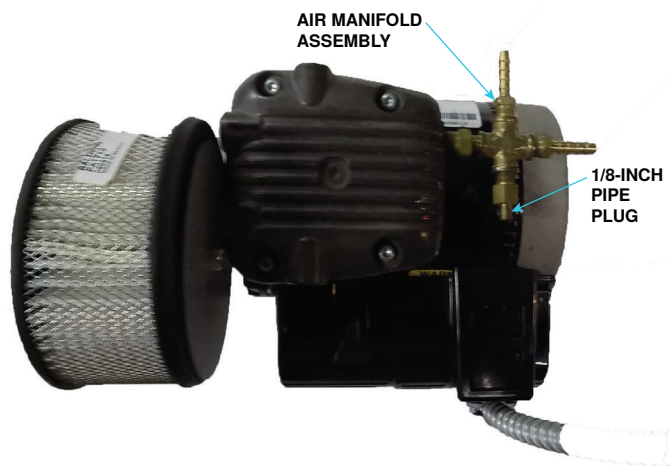

Figure 70. Air Manifold Assembly and Pipe Plug
- a. Install air manifold assembly on replacement compressor (see Figure 70):
- (1) Remove air manifold assembly from existing compressor and install on outlet side of replacement compressor.
- (2) Remove air bleed orifice and replace with 1/8-inch pipe plug (1).